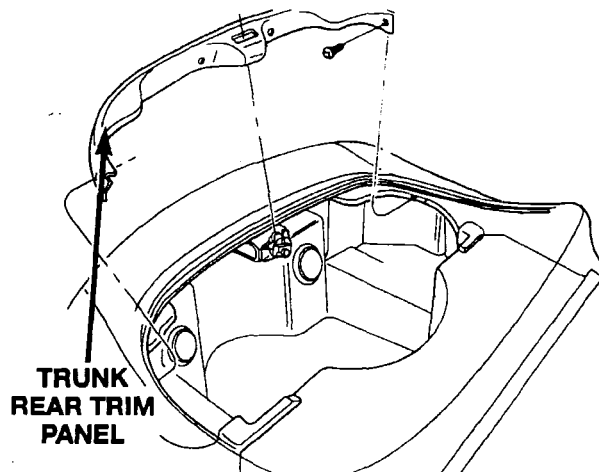

Figure 20
4. Remove the trunk rear trim panel (Figure 20).